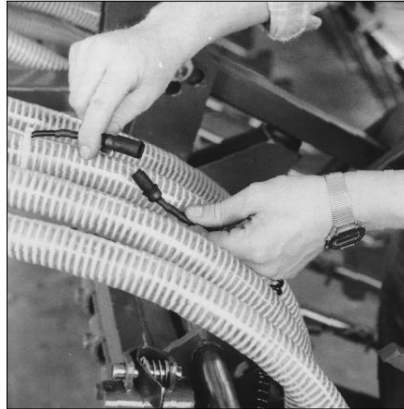

Fig. 21-6
- Use a PVC hose strap to fasten the end of the sensor lead to the spiral seed delivery hose (fig. 21-6).